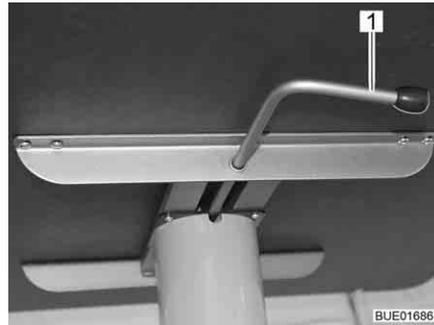

Fig. 83 Lift-off table
- Swivel the catch lever (Fig. 83, 1) to the left. The lock of the lifting mechanism is open.
- Swivel the catch lever (Fig. 83, 1) to the right (Fig. 83). The lifting mechanism is locked.
- Swivel the catch lever (Fig. 83, 1) to the left. The lock of the lifting mechanism is open. The table-top moves upwards to the limit stop.
- Swivel the catch lever to the right (Fig. 83). The lifting mechanism is locked.